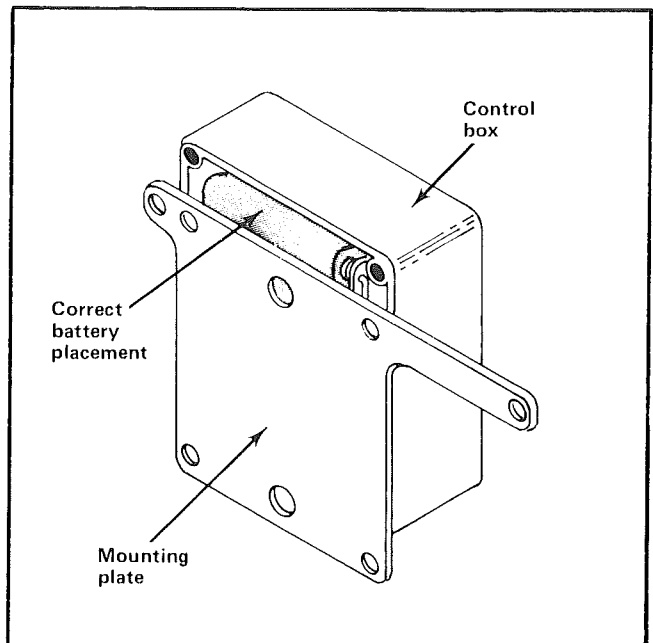

Fig. 2-4. Correct placement of the Writing Speed Enhancer mounting plate on the control box when used on a camera not having a battery pack.
10. Re-install the mounting plate on the back of the control box. Use the four flat-head screws removed in step 6. See Fig. 2-4.